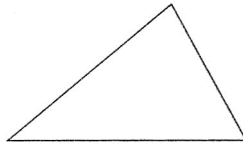

Figure 10
- b) In **acute-angled** or **scalene** triangle (Figure 10) every angle is less than  $90^\circ$ .